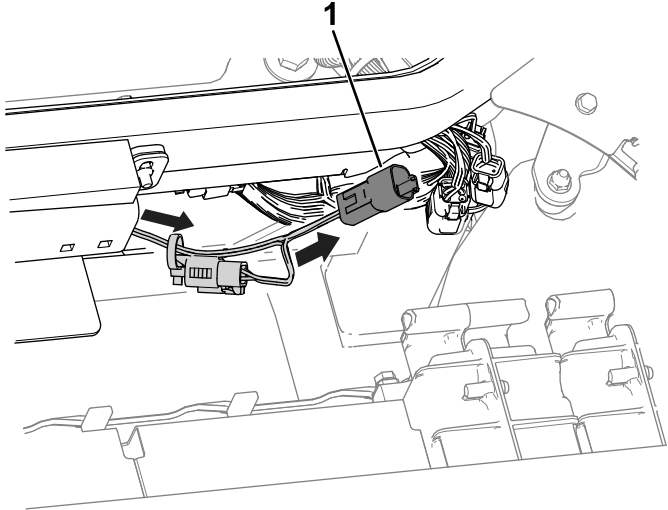

Figure 5
5. Raise the hood and route the wire-harness leg (Figure 5) toward the connectors above the hydraulic-tank cap and connect it to the machine wire-harness connector labeled DRIVING LIGHT KIT POWER.